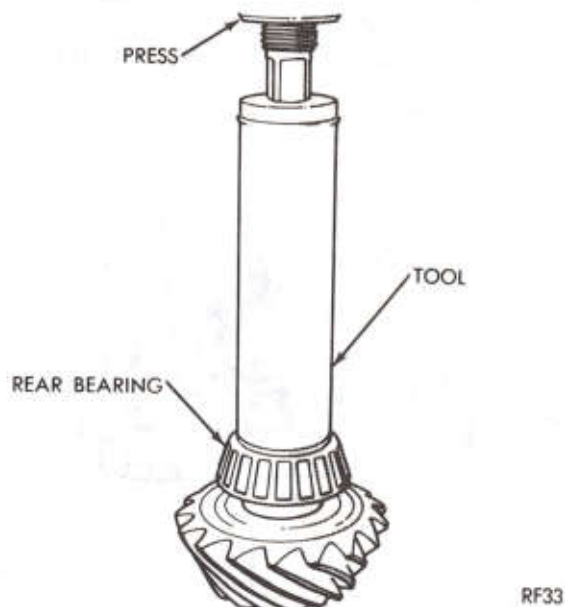

Fig. 36—Installing Pinion Bearing Cone
(2) Drive or press inner bearing onto shaft until it is completely seated using Tool C-3095-A (Fig. 36).